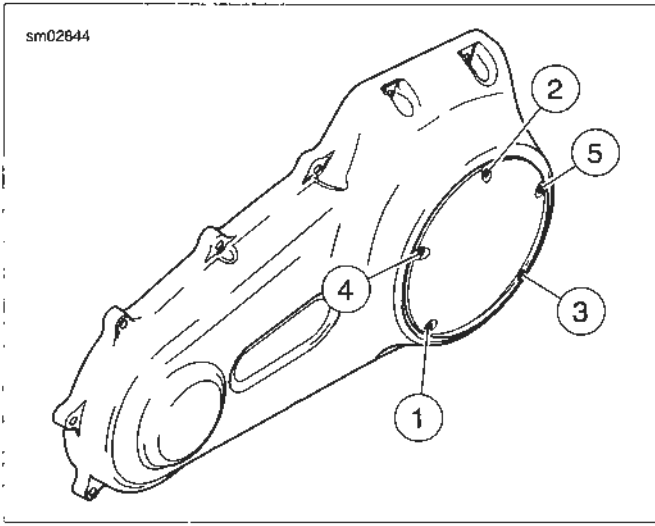

Figure 1-14. Clutch Cover Torque Sequence
- c. See Figure 1-14. Insert screw (with captive washer) through clutch inspection cover and carefully thread it into the top cover screw hole.
- e. Alternately tighten screws to 84-108 **in-lbs** (9.5-12.2 Nm) following torque sequence shown in Figure 1-14.